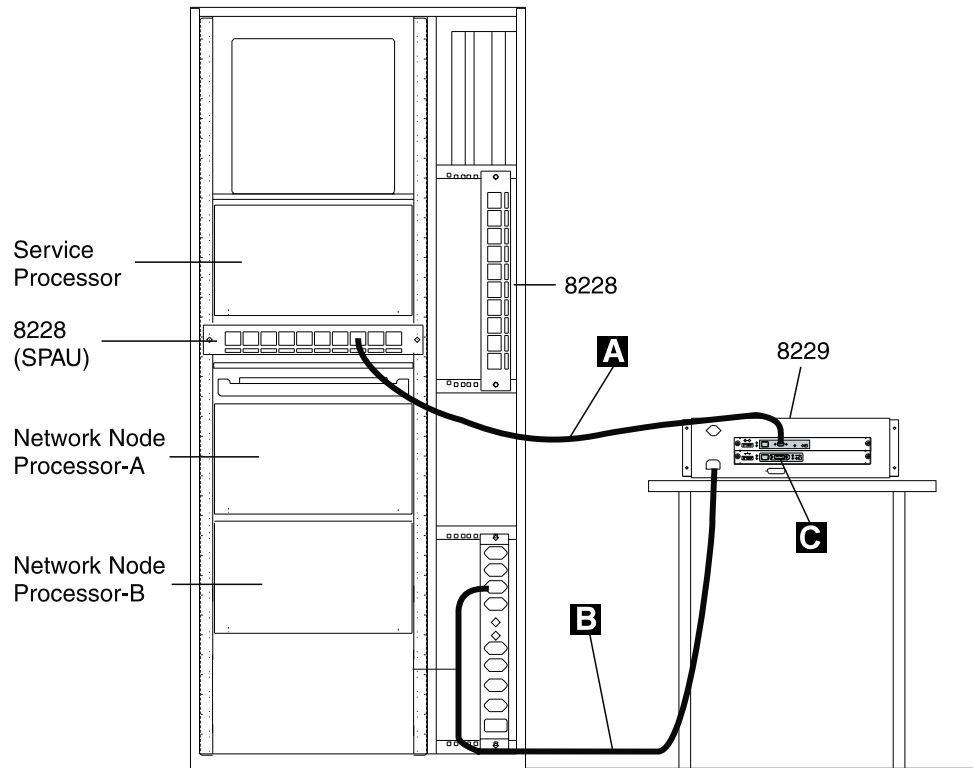

Figure 2-12. Connecting the Ethernet Bridge to the Service Processor
- a. ____ Refer to Figure 2-12 and install the Ethernet Bridge on a table close to the controller expansion
- a. ____ Refer to Figure 2-12 on page 2-11, and disconnect the power cord **B** first from the Ethernet Bridge and then from the ac outlet distribution box.